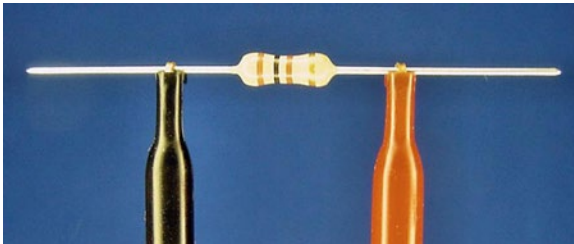

Figure 9-6. Hook test probe adaptors holding a 100 Ω resistor
6. Touch or connect the black probe tip to one end wire of the resistor (see Figure 9-6). It doesn't matter which ends you choose.
3. Hook up the 470 Ω resistor as you did the 100 Ω resistor (refer back to Figure 9-6).